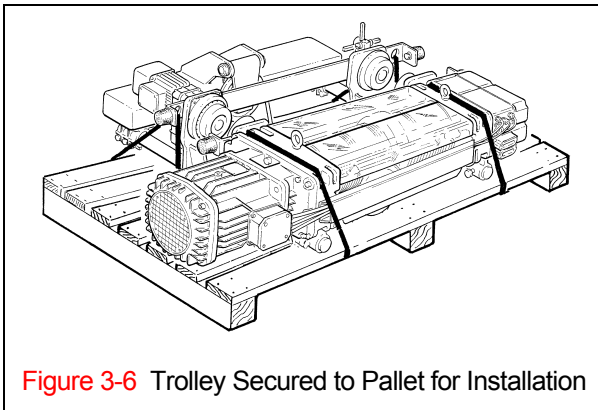

Figure 3-6 Trolley Secured to Pallet for Installation
- 2) Install any additional devices, if any (power supply cords or pendants, for instance – see Section 3.5) onto the trolley hoist. If the trolley hoist is not secured to a pallet, place and secure it to one making sure that the trolley hoist is completely stable (see Figure 3-6).